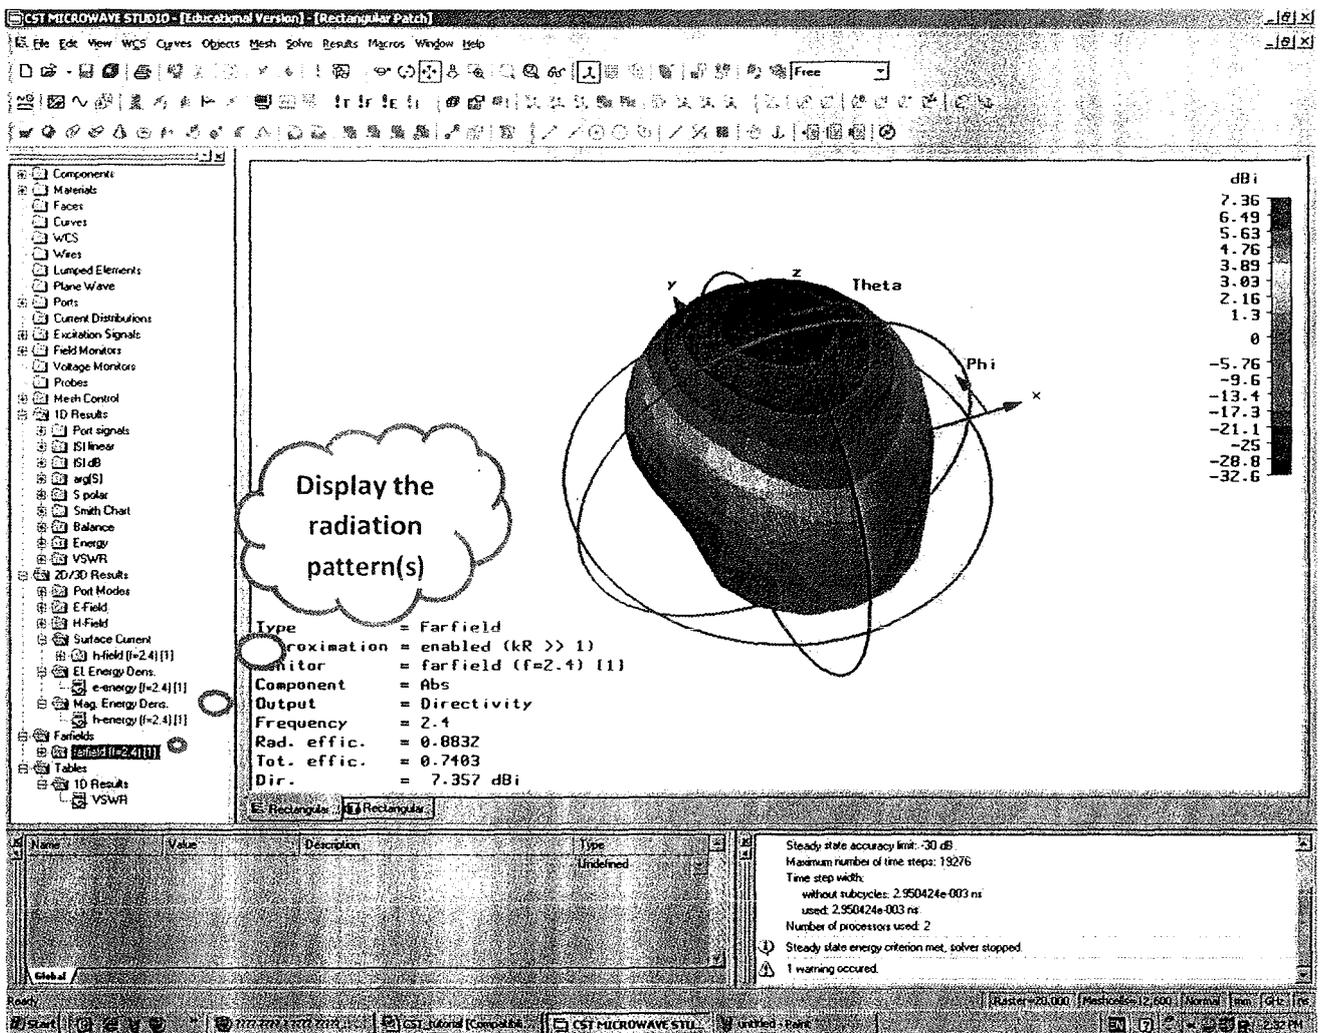

Fig.24 Displaying radiation patterns plots
- b. To show the current distribution plots go to the left pane then click on **2D/3D Results** then select Surface current > h-fields as shown in Fig.24